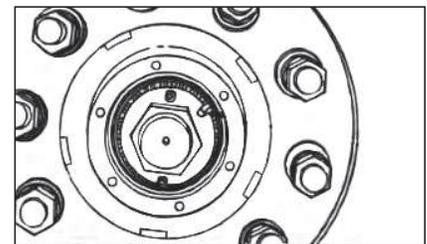

Figure 3
- 4 Using a six-point thin tubular socket with the appropriate **calibrated torque wrench**, torque nut to 200 ft-lbs. while rotating the wheel. See Table 1 for wrench sizes. After torque is achieved, rotate wheel hub assembly an additional two full revolutions. **(Wheel should not rotate freely at a nut torque of 200 ft-lbs)** See Figure 3 for socket placement.